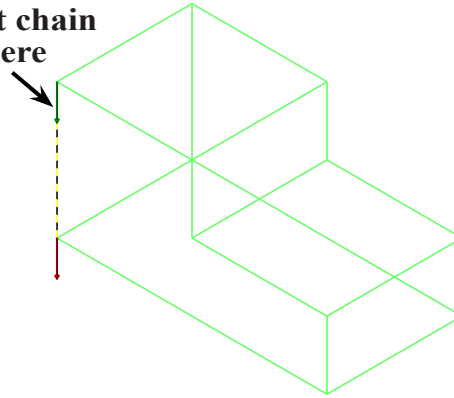

Fig. 14
Step 3. Click the **left vertical line towards top of block**, **Fig. 14**.